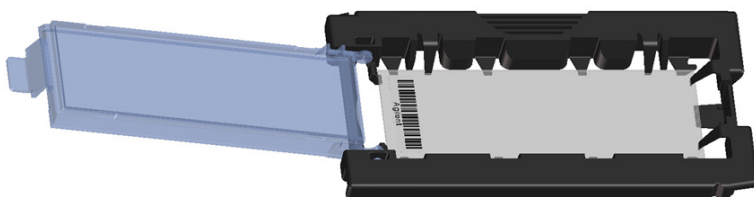

Figure 39 Slide inserted in slide holder
- d Gently lower the slide into the slide holder. See Figure 39.